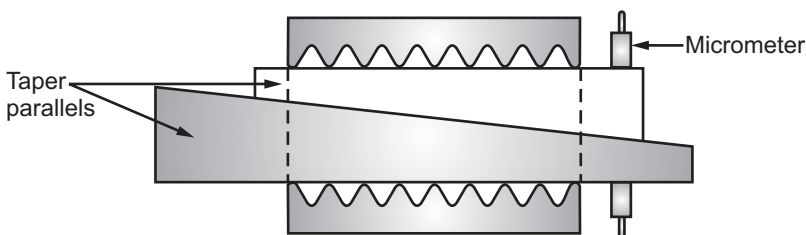

Fig. 5.17: Measurement of minor diameter of internal threads
- The diameter across their outer edges can be changed by sliding them over each other as shown in Fig. 5.17.